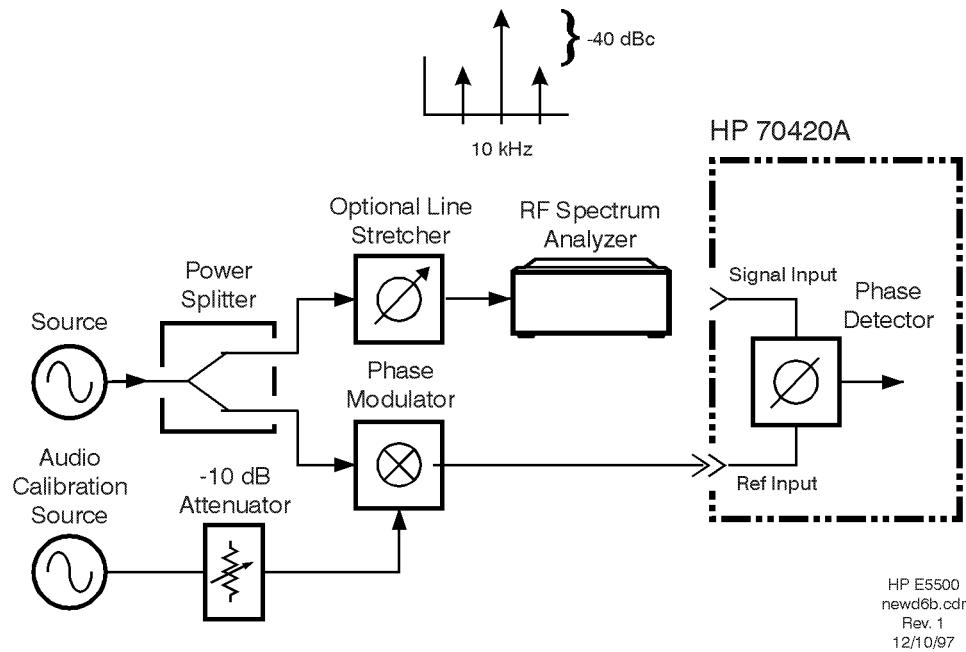

Figure 8-15 Measuring Carrier-to-sideband Ratio of the Modulated Port
- 3 Using the RF spectrum analyzer or modulation analyzer, measure the carrier-to-sideband ratio of the phase modulation at the phase detector’s modulated port and the modulation frequency. The audio calibration source should be adjusted such that the sidebands are between –30 and –60 dB below the carrier and the audio frequency is between 50 Hz and 50 MHz. See Figure 8-15.